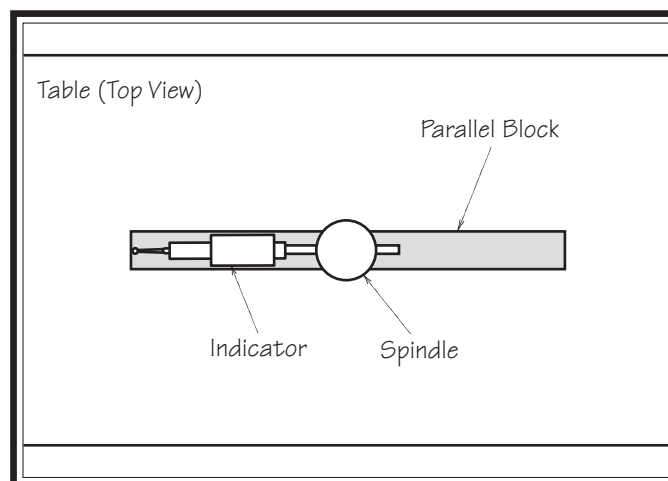

Figure 29. Parallel block positioned for the X-axis measurement (top view).
5. To measure spindle alignment along the X-axis, place the parallel block directly under the spindle and indicator across the length of the table, as illustrated in **Figure 29**.
6. Rotate the spindle by hand so that the indicator point rests on one end of the parallel block, as illustrated in **Figure 29**, then zero the dial.